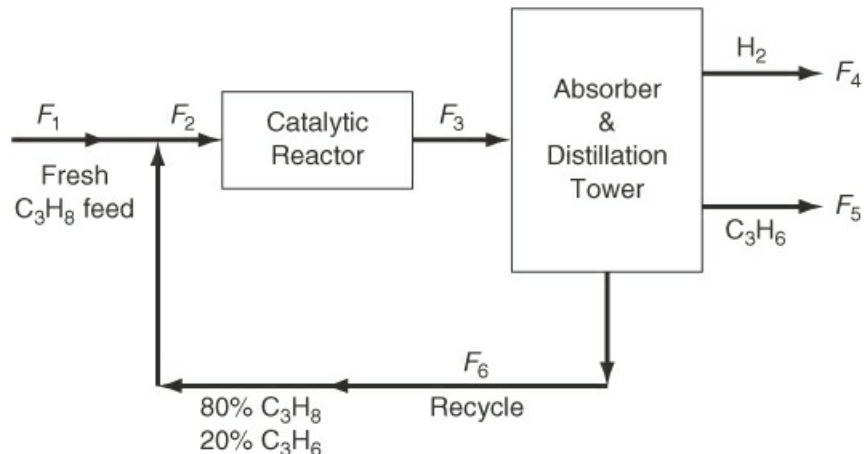

Figure P5.3.20
***5.3.20 The process shown in Figure P5.3.20 is the dehydrogenation of propane (C_3H_8) to propylene (C_3H_6) according to the reaction